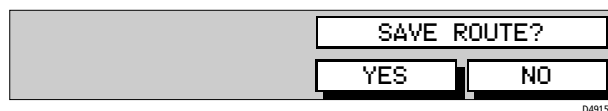

Figure 3-37: Save Route Soft Keys
4. If the route has not been saved the SAVE ROUTE soft keys are displayed as shown in *Figure 3-37*.